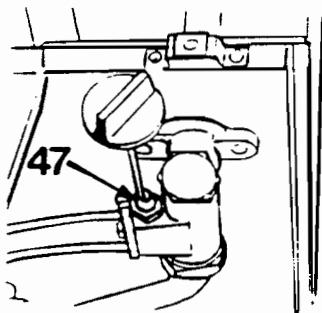

FIG. 21
Pull the Winter/Summer knob from the shaft. Release connection (47) Fig. 21. and carefully withdraw the Winter/Summer assembly.